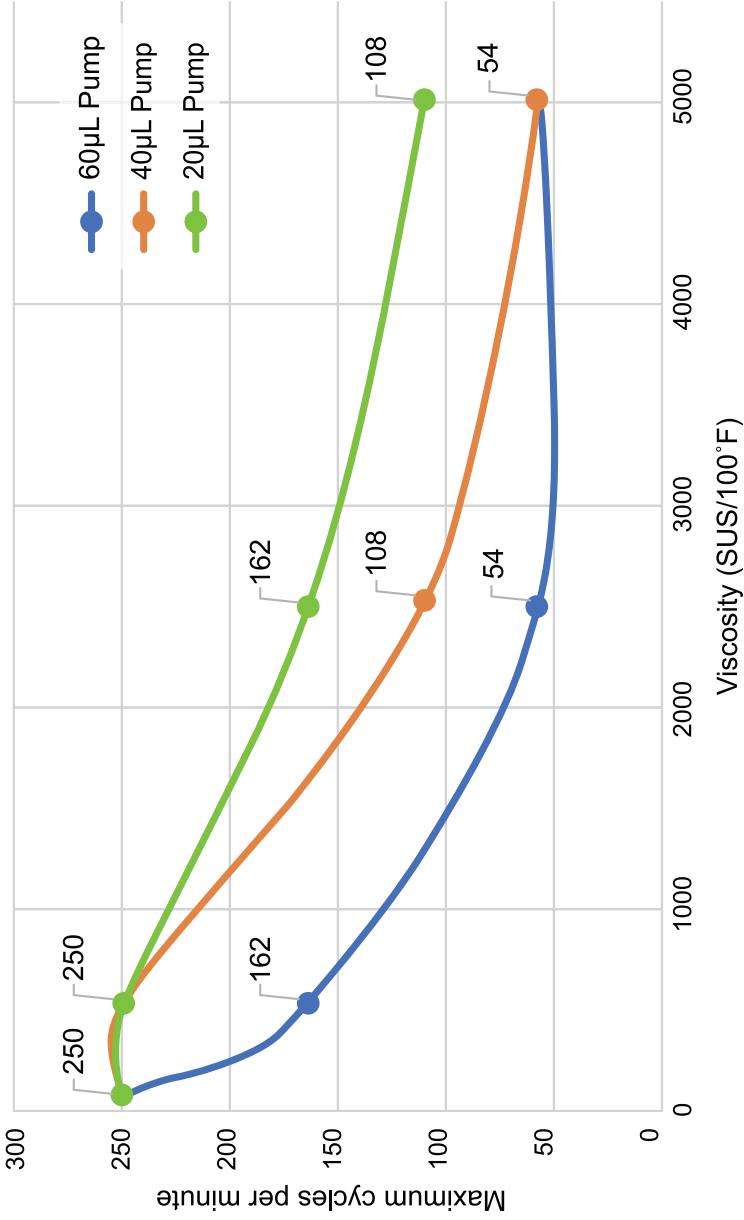

Figure 5: Maximum cycles per minute based on fluid viscosity
*Fluid cycles per minute based on Coolube® 2210 and direct actuated pumps, reference Figure 5 on page 6 for other fluid viscosities